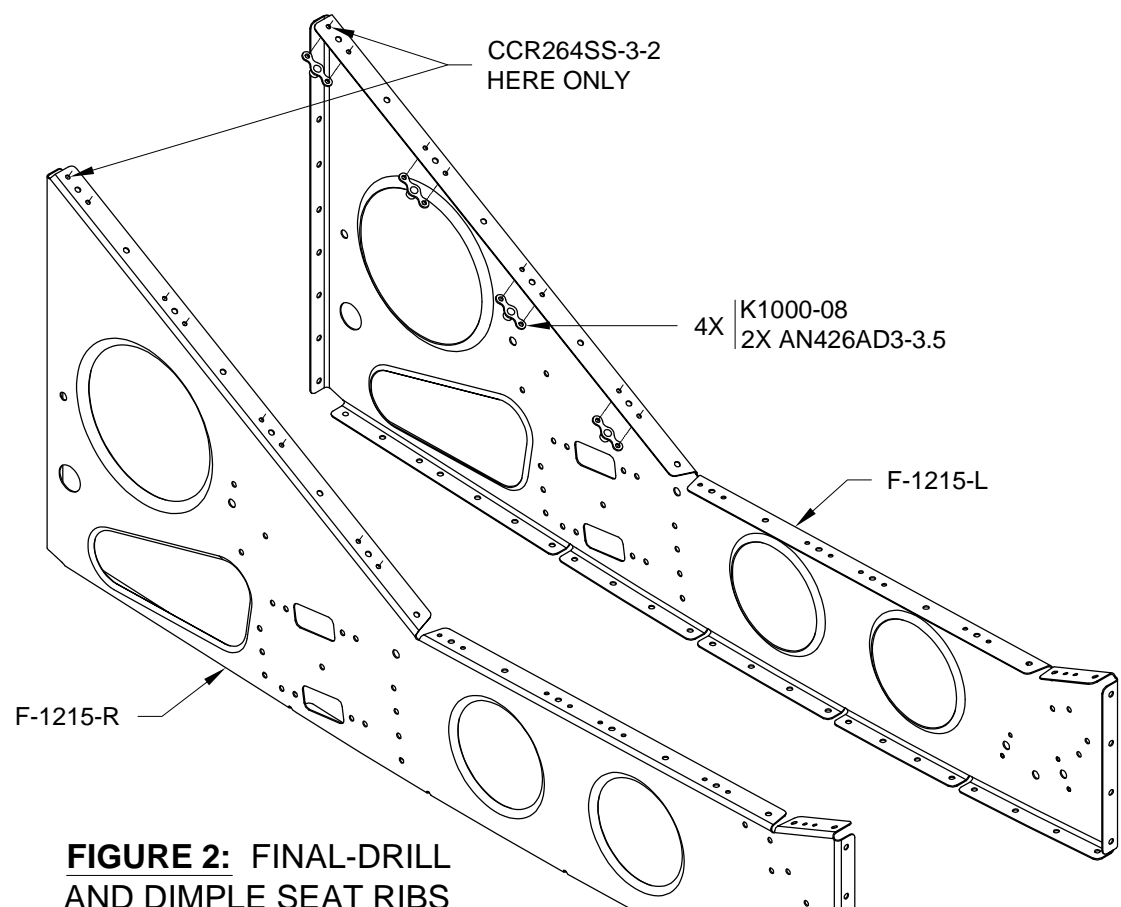

FIGURE 2: FINAL-DRILL AND DIMPLE SEAT RIBS
Step 5: Locate the four remaining F-1215-L & -R Seat Ribs (two left and two right, without seat belt attach lugs). In all four seat ribs, final-drill #19 the screw holes for the nutplates depicted in Figure 2.
Step 6: Set aside one pair of F-1215-L & -R Seat Ribs (one left and one right). Dimple the nutplates shown in Figure 2, then rivet them to the remaining two F-1215-L & -R Seat Ribs (one left and one right) using the rivets called out.